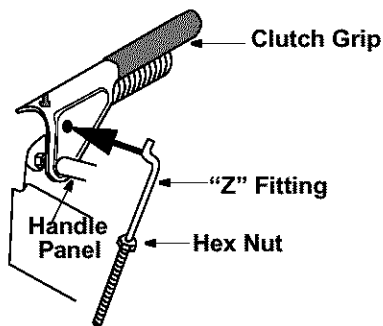

Figure 4
- Take a "Z" fitting from the hardware pack and insert the Z end into the hole on the left clutch grip on the handle panel. See Figure 4. Thread a hex nut from hardware pack on to the Z fitting.
- If necessary, loosen the hex lock nut and thread the cable in (for less slack) or out (for more slack) as necessary. Refer to Figure 4.